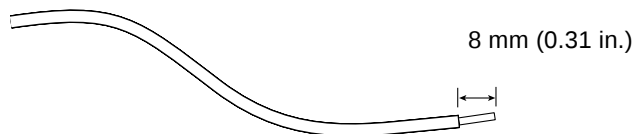

FIGURE 3-1 Stripping the Insulation From the Wire
5. **Strip 8 mm (0.31 inches) of insulation from each of the wires coming from the DC power source (see FIGURE 3-1).**